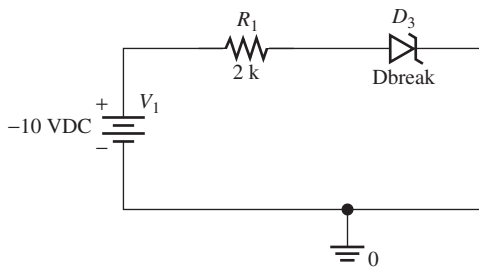

FIGURE 8.88 Place the Zener diode into the PSpice circuit.
2. Place the Zener diode as shown in Figure 8.88.